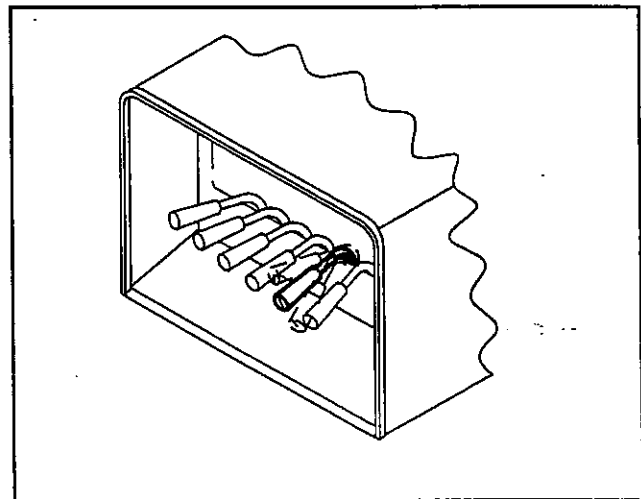

Figure 5-6 Hitch Slide Control
**5-6.1** Some optional hitches such as the towbar and wheelift have a hydraulic control to move the hitch in or out. The hitch is to be out only far enough to allow swing clearance for the towed vehicle. The hitch is to be fully retracted when not in use. See Fig. 5-6 for handle positions.